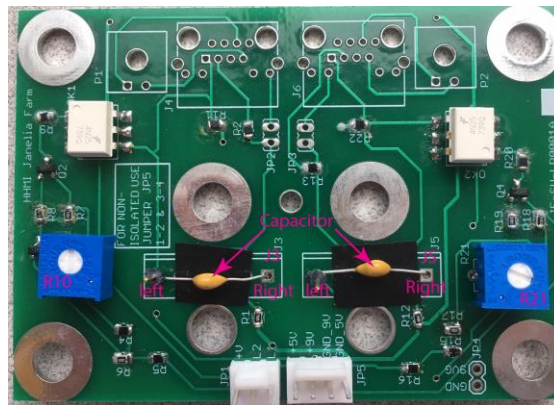

Fig.9.2
9.8. Test the lickometer board (Fig.9.2)